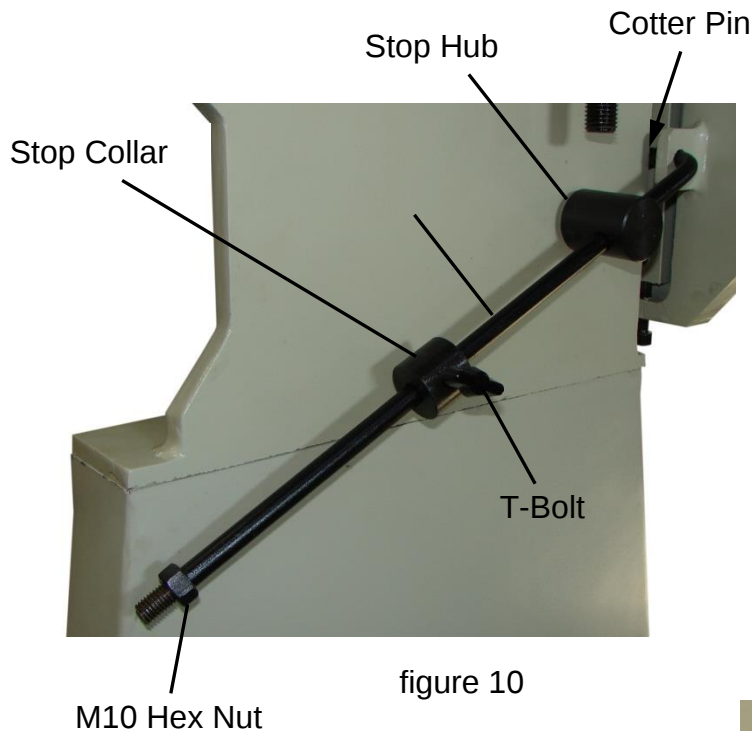

figure 10
1. Insert the stop rod through the stop hub. See (fig. 10)